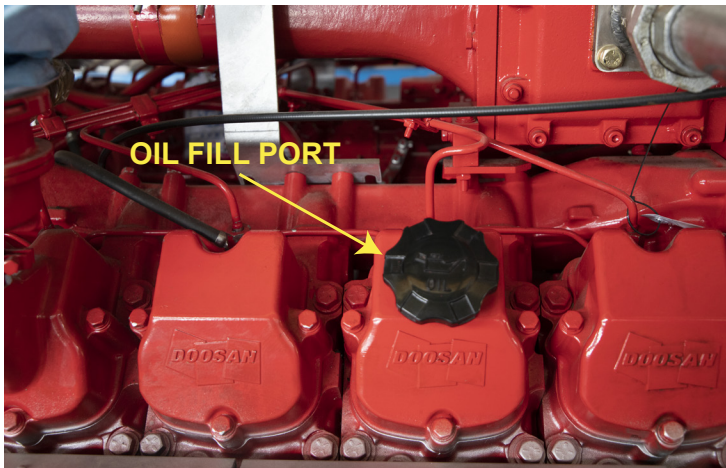

FIGURE 29 - OIL FILL CAP
- Fill diesel engine with appropriate oil (See TABLE 10) using the oil fill port on top of the engine. See FIGURE 29.
- Turn the diesel engine off. Wait a minimum of five (5) minutes and check the diesel engine oil level. Add oil if necessary.